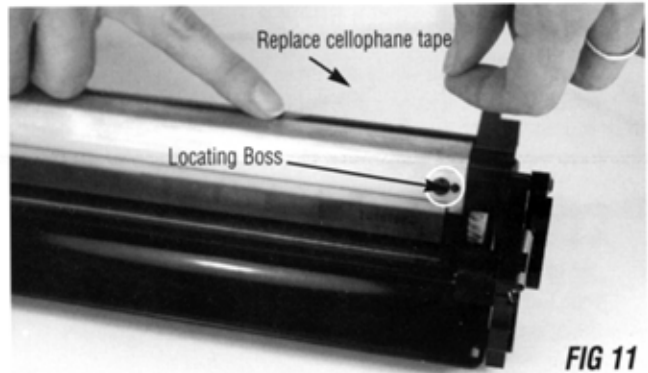

FIG 11
2. Place a strip of cellophane tape (1/2" width) along the length of the wiper blade assembly where the metal stamping butts against the ABS plastic casing. This will lessen the possibility of leakage from the waste bin. (Figure 11)